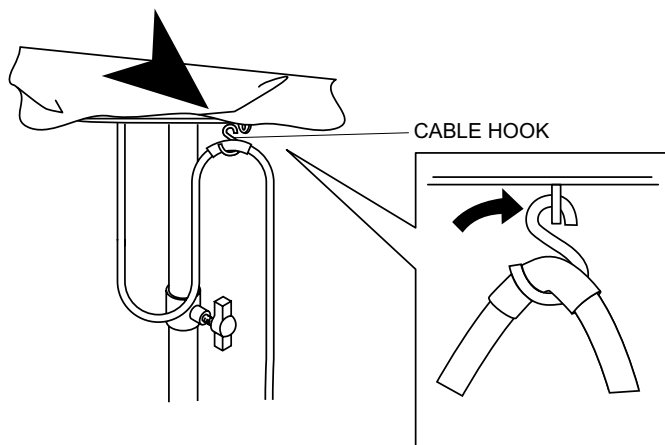

Figure 10. Securing Cable with Hook
- Secure the power cable by hooking it to the eyelet on the bottom of the balloon as shown in Figure 10.